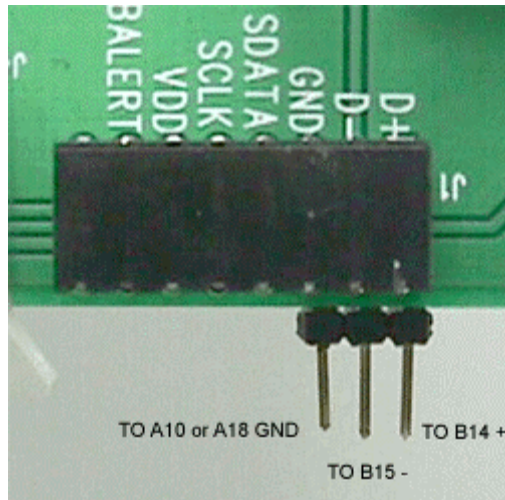
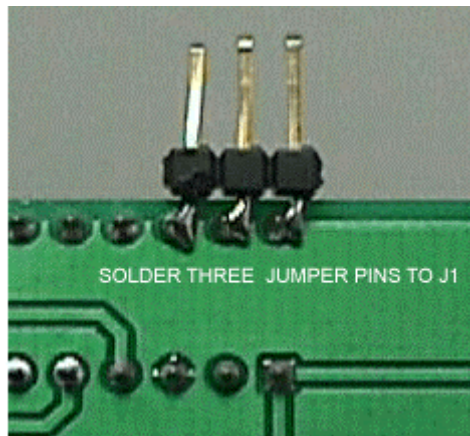

Figure 6 Test board with jumper connections. Top side view
Figure 7 Test board with jumper connections. Bottom side view
14) Solder a Three-pin jumper connector to J1. See Figure 6 and Figure 7.
The positive lead (coming from B14) to D+, the negative lead (coming from B15) to D- and the shield to GND. See , Figure 6 and Figure 7
- 8) Connect the other end of the twisted pair cable to the three jumper pins on J1 on the ADM1021 card. The positive lead (coming from AL31) to D+, the negative lead (coming from AL29) to D- and the shield to GND. See Figure 6 and Figure 7.